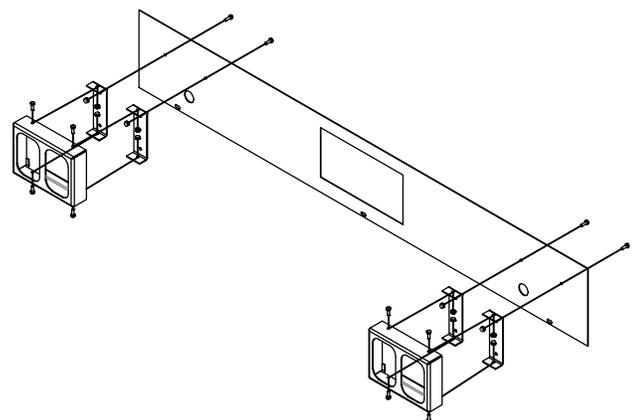

Figure 6
- Step 7. Assemble the light kit as shown using the supplied 1/4-20x3/4" bolts and 1/4-20 Keps nuts. Do not tighten at this time (Figure 6).
- Step 8. Bolt the light kit to the main frame box cover removed in step 2 using the supplied 1/4-20x3/4" bolts and 1/4-20 keps nuts. Tighten all bolts to 9ft-lb (Figure 6).